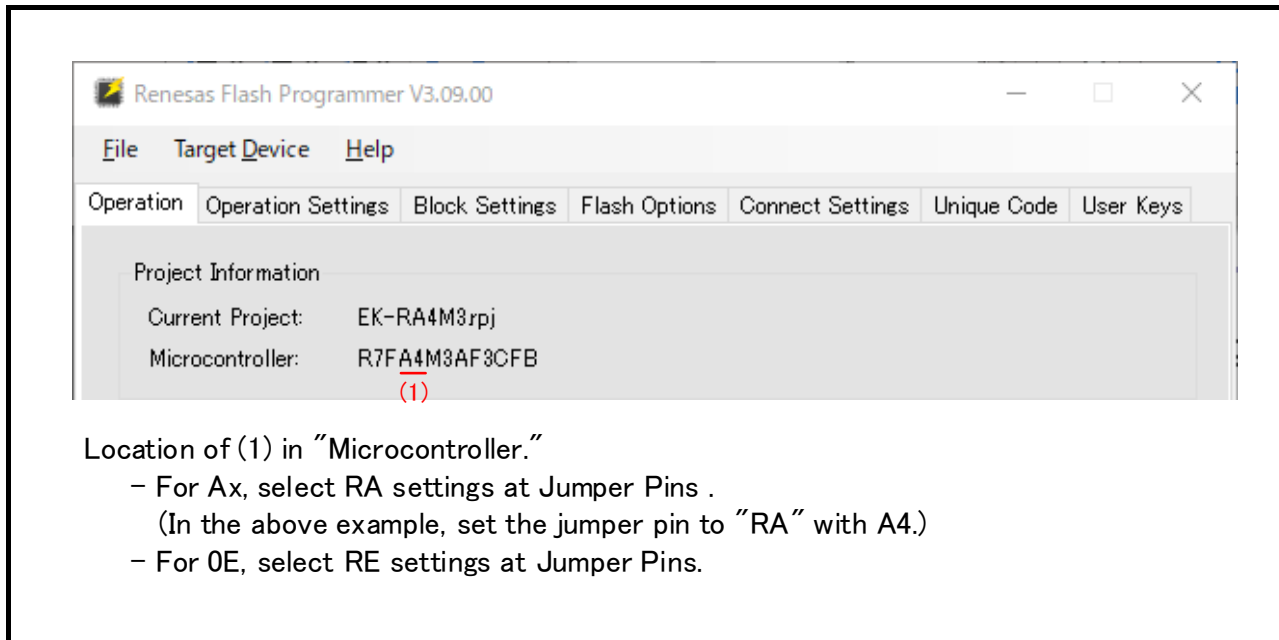

Figure 5.2 Configuring Renesas Flash Programmer
Set the jumper pins (JP1 - JP6) of this product according to the settings of the Renesas Flash Programmer. When (1) in Figure 5.2 is RA, set the jumper pins (JP1 - JP6) of this product according to RA in Table 5.2. When (1) in Figure 5.2 is RE, set the jumper pins (JP1 - JP6) of this product according to RE in Table 5.2. Set "Power Supply" to 3.3V from [Tool Details] dialog box on the [Connect Settings] tab.